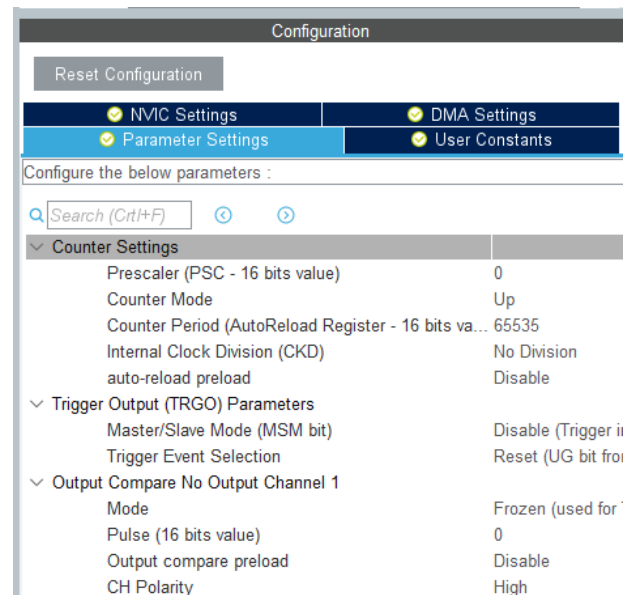

Figure 7: Parameter Settings in the TIM3 Configuration window (Output Compare).
- When polling is done on UIF (Figure 7), enter the proper values for *Prescaler* and *Counter Period* fields (the latter is equivalent to the TIM3_ARR register). Leave the default values for the remaining fields;